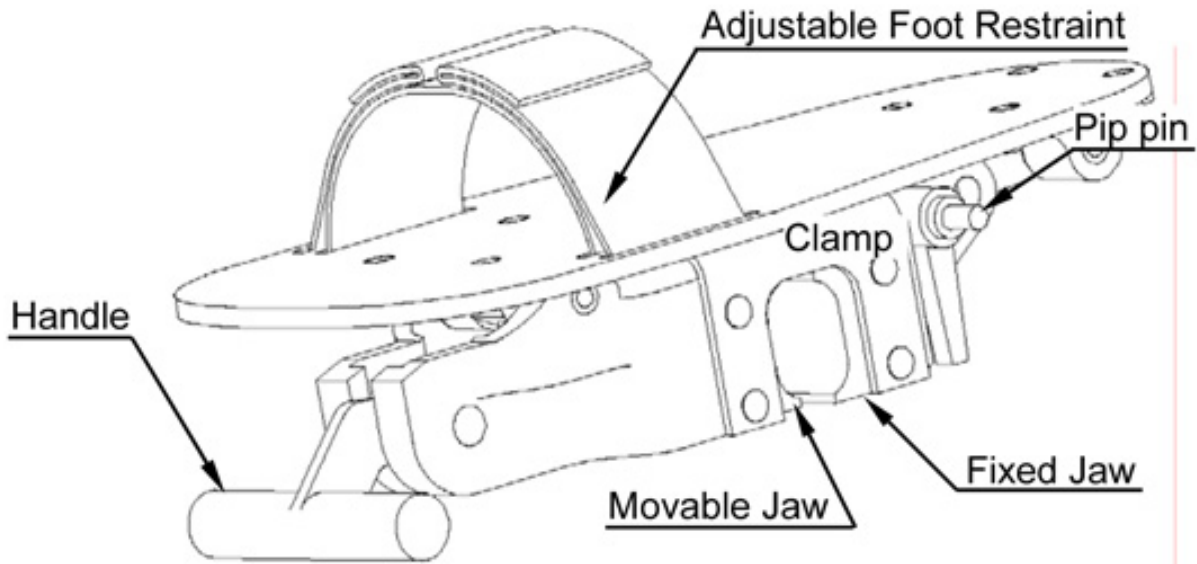

Figure 4. Portable Foot Loop Configuration
3. For this section refer to Figures 4 and 5.
- 3.1 Remove Pip-Pin to unlatch Inclination Mechanism. Refer to Figure 4.